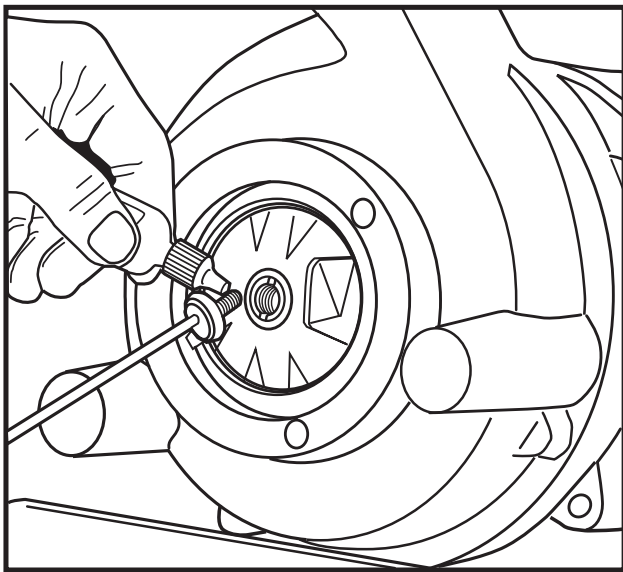

Fig. 8
10. Replace holding screw and washer, use small amount of Loctite #271 screw. See Figure 8